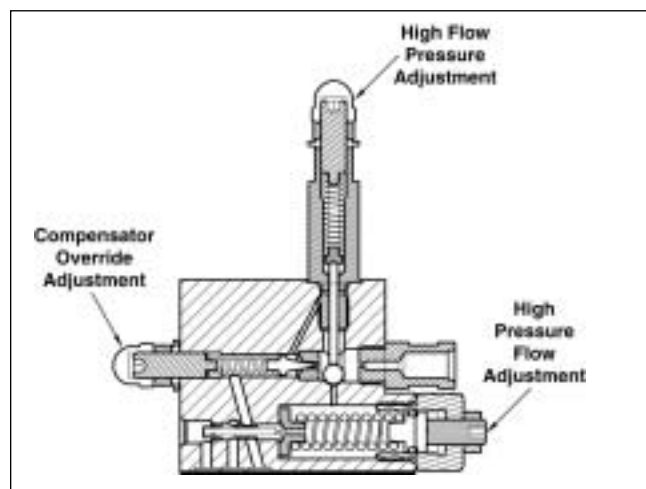

Figure 13
3. Using the High Pressure Flow Adjustment (Fig. 13), preload the spring.
4. Back out the High Flow Pressure Adjustment (Fig. 13) until there is no resistance.
6. Using the Compensator Override Adjustment (Fig. 13), set the compensator 500 psi (34.5 bar) above the desired pressure (P1). Note: if the pump is not at zero flow, adjust the relief valve until zero flow is achieved.
8. Adjust the High Pressure Flow Adjustment (Fig. 13) to achieve full flow at 95% of the desired pressure (P1). Note: if the discharge pressure drops below the desired value, readjust it using the relief valve.